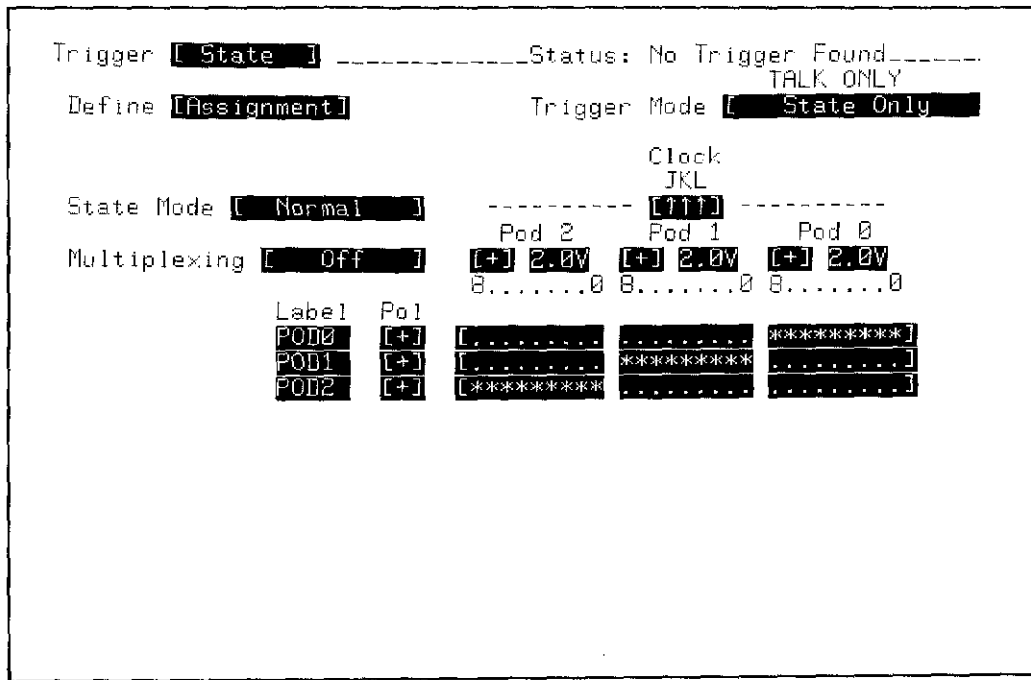

Figure 3-35. TRIGGER State / Define [Assignment] Menu
4. Configure the TRIGGER State / Define [Assignment] menu as shown in figure 3-35.